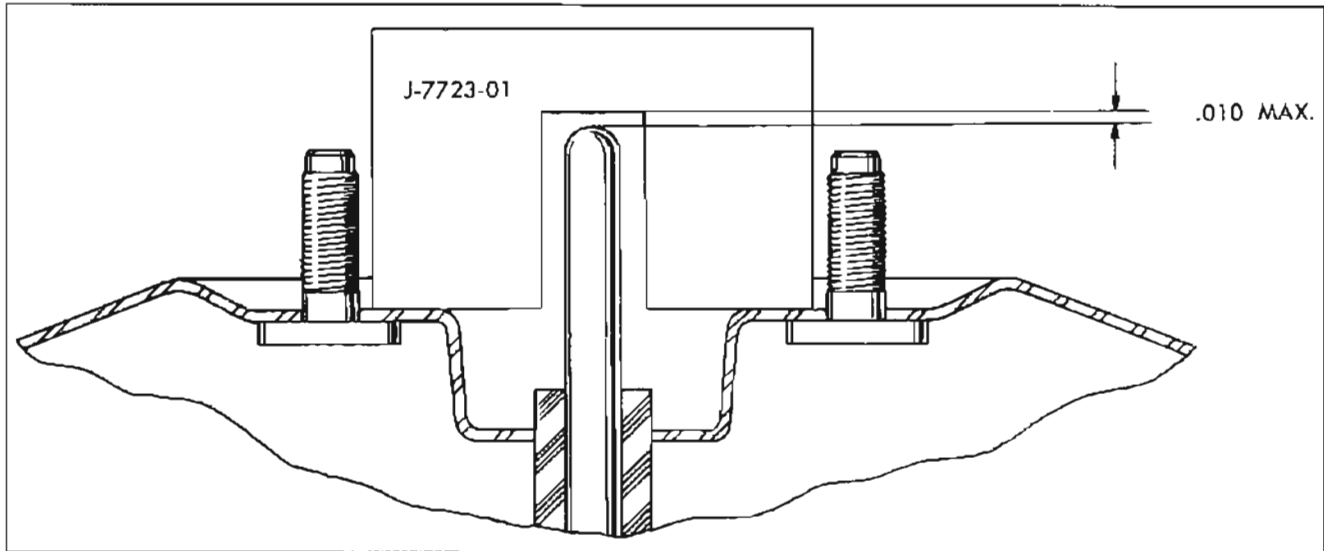

Figure 9-53—Gauging Master Cylinder Push Rod
2. Place Gauge J-7723-01 over the piston rod so that it fits between the two studs on the front housing. It should be parallel to the studs and resting on the surface of the housing. The cutout portion of the gauge should never be lower than the end of the piston rod, and the gap between the cutout in the gauge and the end of the piston rod should never be more than .010 inch. See Figure 9-53.